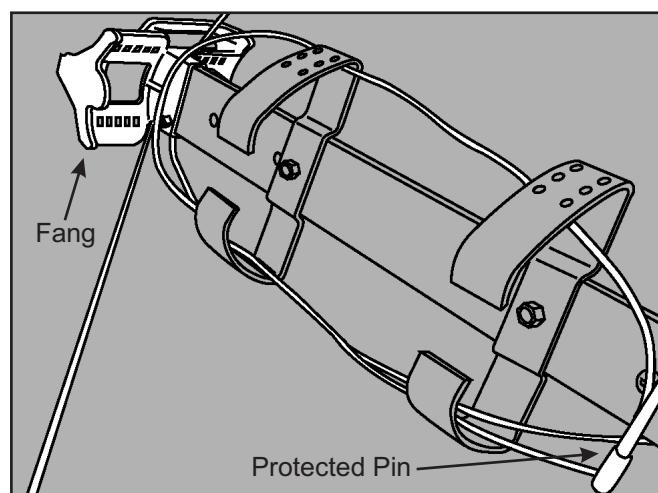
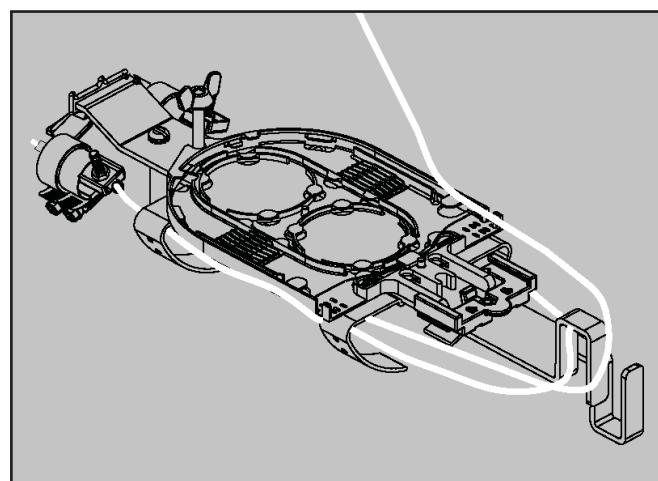
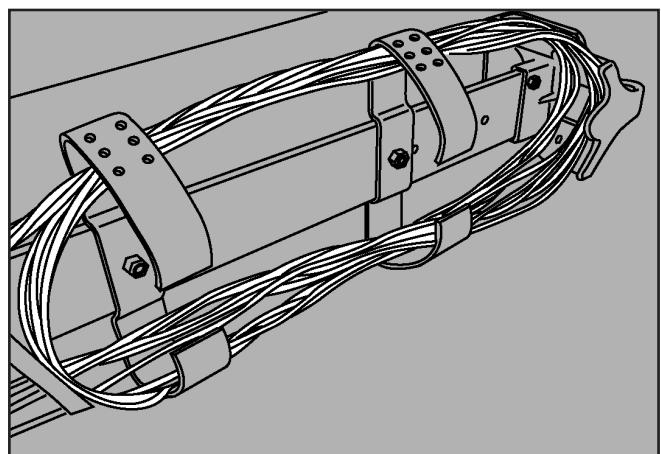

Figure 3
Figure 3a
Figure 20
- Route the loose buffer tube inside the buffer tube bracket storage and management system keeping to the inside of the FANG™ Bracket (FG 800 & 650) or 500 Bracket (Fg500) and protected pin (End Plate end) until the final turn which passes through the outside guides of the FANG™ Bracket (Figure 3) or 500 Bracket. (Figure 3a)
20. Once the SLIDE-N-LOCK splice tray is full, re-route the buffer tubes back through the organization system keeping inside the FANG™ Brackets/500 Brackets and protected pin until the final lay-up onto the splice tray which is routed through the outside FANG™ guide (Figures 20 or 3) or 500 guide. (Figure 3a)